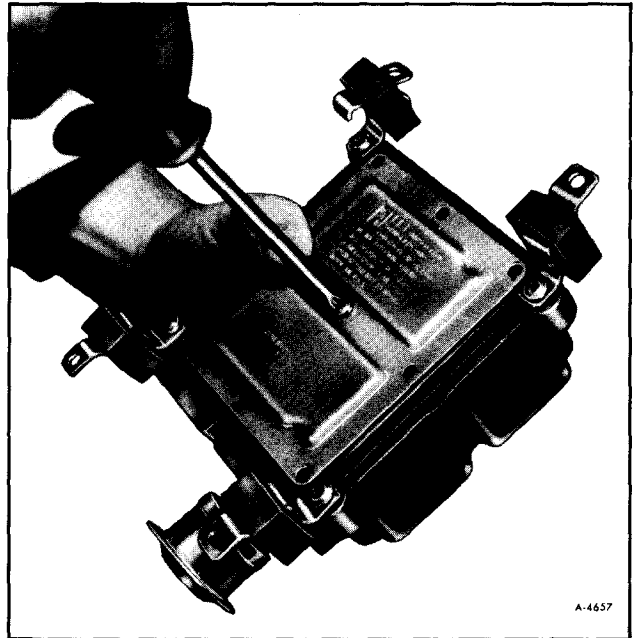

Figure 20—Removing Bottom Plate
4. Remove nine screws from bottom of base and bottom plate (figure 20).